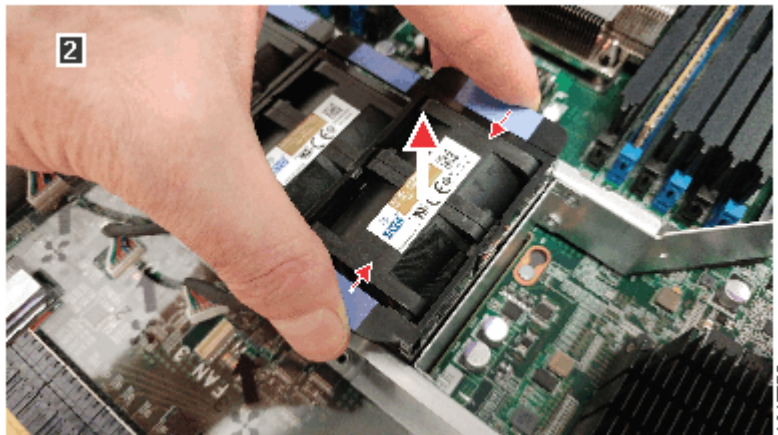

Figure 102. Removing the fan module
7. Hold the fan module between your finger and thumb at the blue touch points. Squeeze gently and lift the fan module out of the node canister, as Figure 102 on page 143 shows.